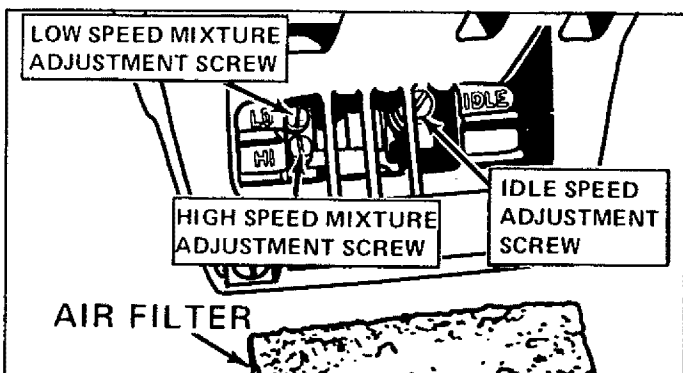

Figure 10 Download from Wwww.Somanuals.com. All Manuals Search And Download.
- 3.) Remove air filter (Figure 10) and place under spark plug wire for safe keeping.
- 4.) Turn both low speed and high speed mixture screws clockwise \rightarrow until fully closed, but **do not overtighten**. Figure 10. Unscrew both mixture screws one full turn counterclockwise